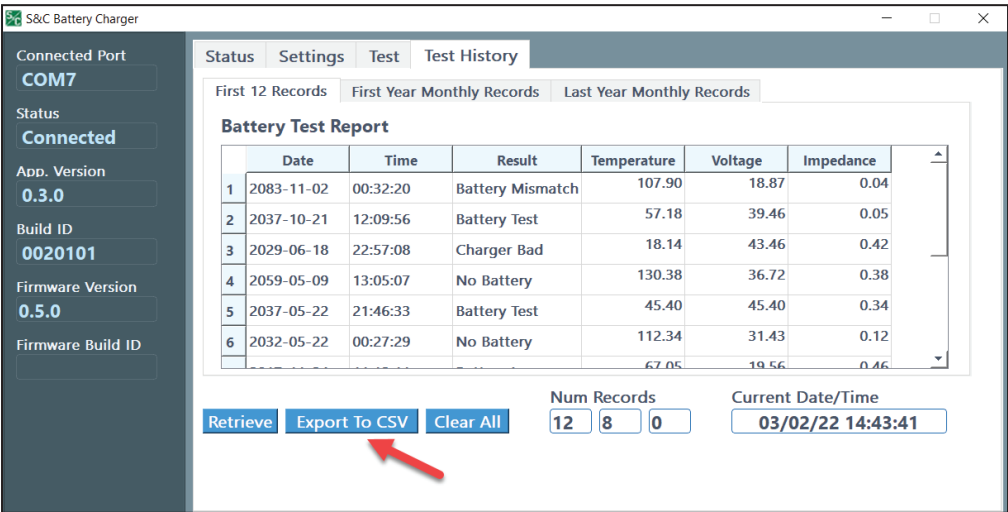
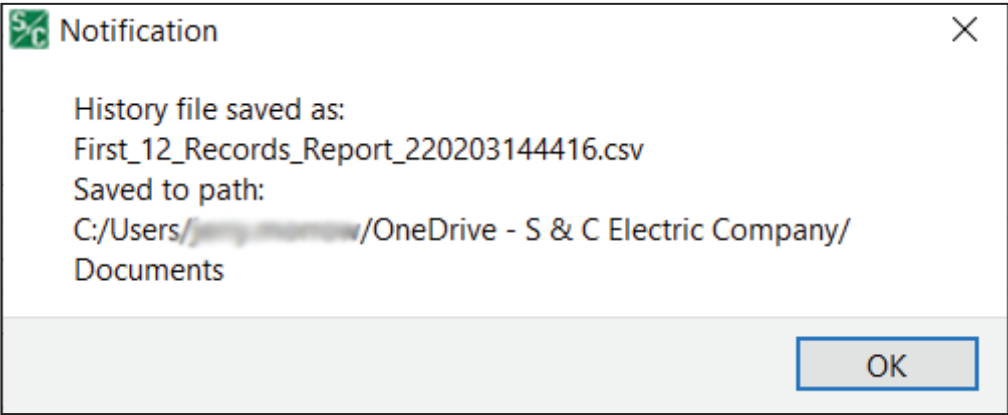

Figure 23. The Test History tab when exporting a CSV file.
Figure 24. The History File Saved As: dialog box.
- STEP 4.** Click on the **Export to CSV** button. See Figure 23. A dialog box will appear showing the save location. The default location is in the computer's **Documents** folder. See Figure 24.